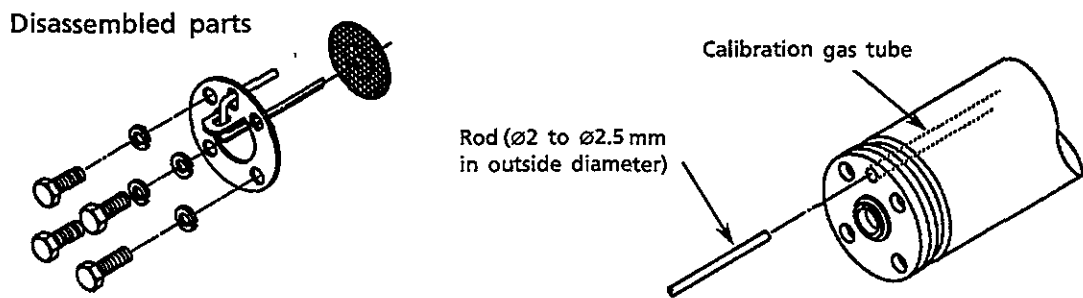

Figure 10.1 Cleaning of Calibration Gas Tube
- (1) Remove the detector.
- (2) Remove the 4 bolts (and the spring washers) attaching the sensor assembly from the top of the detector probe.
- (3) Remove the filter. Remove the filter hold plate assembly together with the U-shaped pipe.
- (4) Clean the calibration gas tube equipped in the probe, using a rod of 2 to 2.5 mm in diameter (see Figure 10.1). Keep air flowing from the calibration gas inlet at about 600 ml/min and insert the rod into the tube (3 mm in inside diameter). However, be careful not to insert the rod deeper than 40 cm for the general-purpose detector, or 15 cm for the high-temperature detector.
- (5) Clean the filter and the U-shaped pipe, as removed in (3). The U-shaped pipe can be rinsed with water. However, it should be dried out before reassembly.
- (6) Reassemble the parts removed for cleaning. Replace the filter with the fine-meshed ring element side facing the sensor. Coat the screw threads of the bolts with a heat-resistant agent and then screw them in.